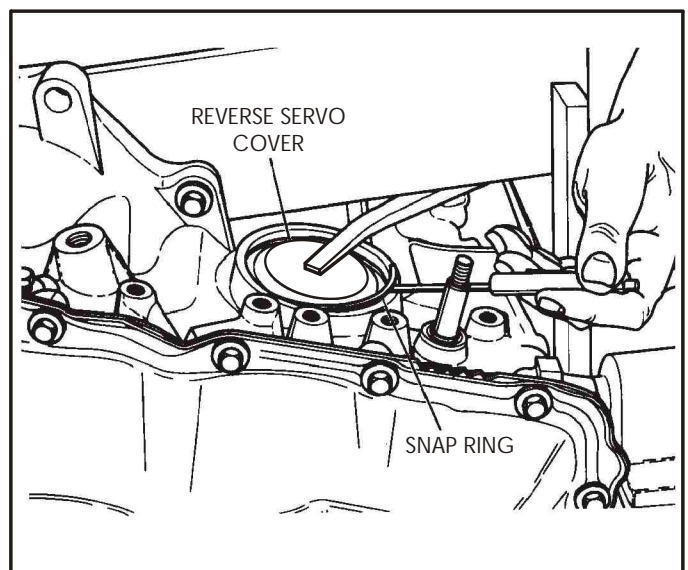

Figure 34
8. Use the support fixture as a pivot point to push the reverse servo cover downward with a large screwdriver, as shown in Figure 34.
9. While the servo cover is compressed, use a small screwdriver to pry out the servo snap ring, as shown in Figure 34.